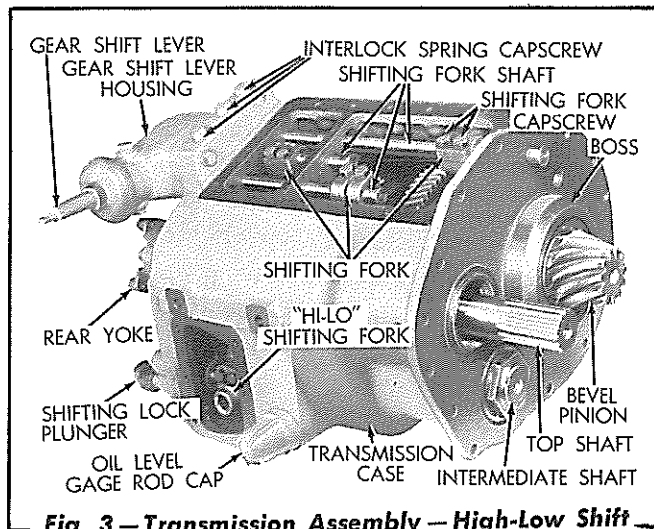

Fig. 3 — Transmission Assembly — High-Low Shift Lever Housing and Side Cover Removed
- a. Install the three shifting forks in position in the slots of their corresponding shifting collars. The forks must be installed with the bosses for the fork attaching capscrews positioned as shown in Fig. 3.
- b. The three (3) shifting fork shafts are of different lengths; the lower shaft being the longest, the upper shaft being next in length, and the center shaft being the shortest.
- h. Install the high-low shifting fork in position in the shifting collar of the intermediate shaft, with the clamping slot of the fork facing toward the center of the transmission (refer to Fig. 3). Insert the high-low shifting fork shaft, assembled in the gear shift interlock housing, into the bore of the transmission case and into the shifting fork.